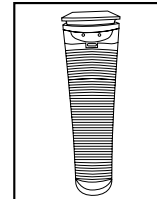

Fig. 4
4. Place the tabs at the bottom of the grill cover into the base of the unit. Gently push the grill cover back into place until you hear a click sound indicating that the grill cover is firmly latched. Fig. 4